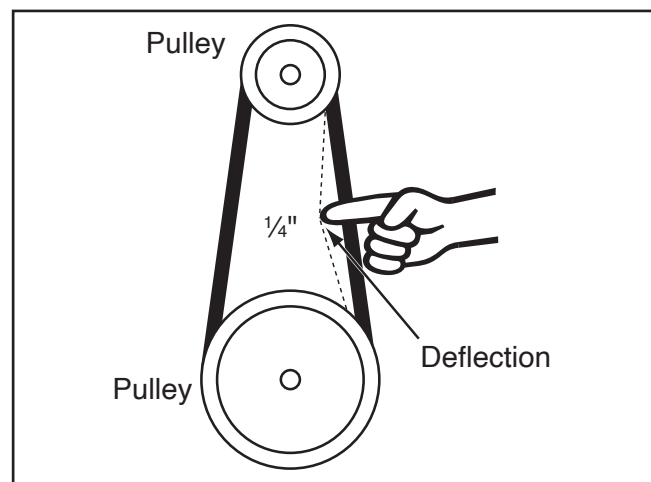

Figure 87. Checking belt tension.
5. Push the center of the V-belt with your finger to check belt tension. The belt is correctly tensioned when there is approximately $\frac{1}{4}$ " deflection when it is pushed with moderate pressure, as shown in **Figure 87**.